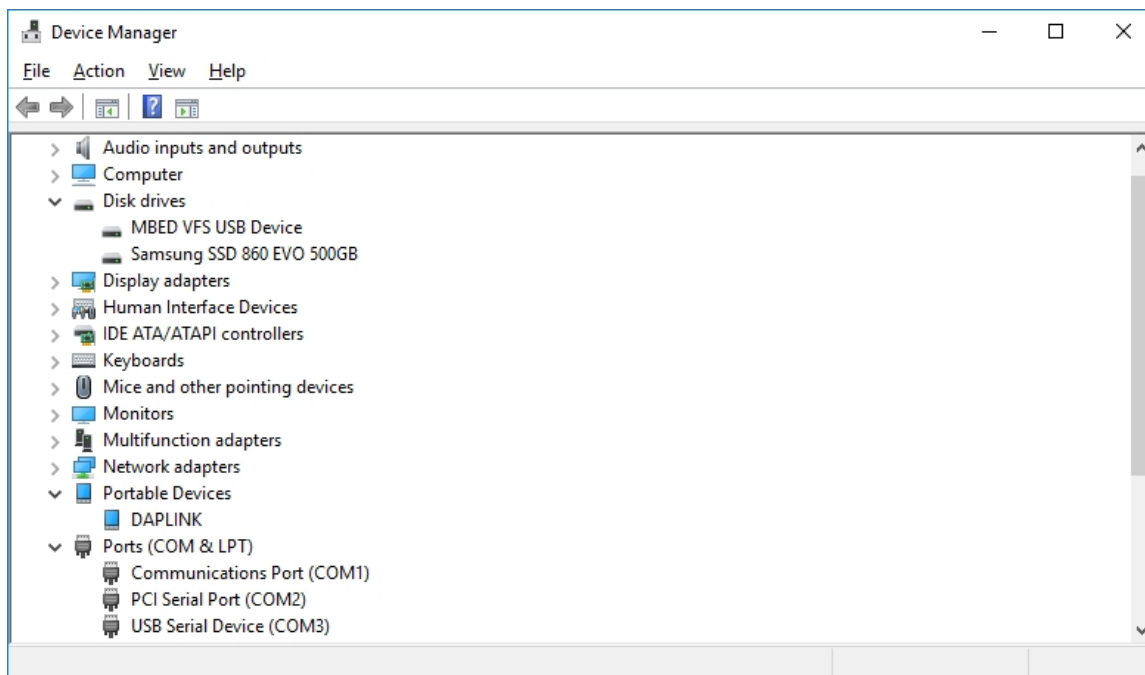

Figure 6. Windows 10 Device Manager showing FRDM-KL05Z drivers
- Windows device setup for the FRDM-KL05Z includes several device drivers (see Figure 6).
- On some Windows computers outside of lab, DAPLink CMSIS-DAP may not appear under Other devices; however, it will appear in Windows Device Manager under Portable Devices as DAPLINK (see Figure 6).
- iv. In the Device Manager window, ∨ expand Ports (COM & LPT) to find USB Serial Device, as shown in Figure 6.
- v. Note the COM port number for USB Serial Device, and record it below for use later. (For example, in Figure 6 the board has been assigned COM3).
- ☞ Figure 6 shows all of the drivers installed for the NXP FRDM-KL05Z board: MBED VFS USB Device (under disk drives); DAPLINK (under portable devices); and USB Serial Device (under ports).
- 💡 If the board does not appear in Device Manager as indicated in Figure 6, get assistance from lab staff.